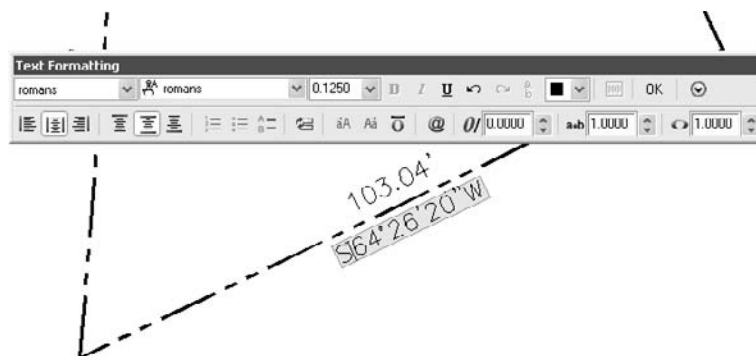

Figure 4.30
6. Edit the dimension, and paste the angle into the text editor (see Figure 4.30).